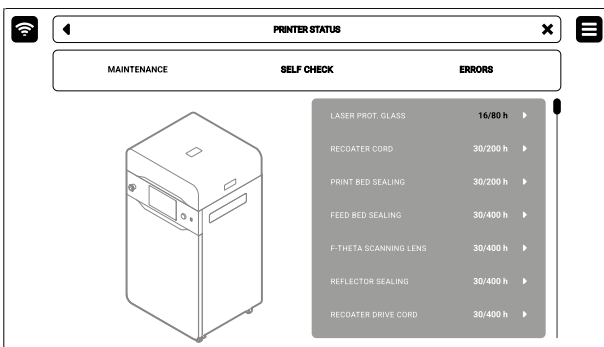

Fig. 13.9 Select the **RECOATER MAINTENANCE** position to start the maintenance
3. In this case, mark **MAINTENANCE DONE** once you have completed the procedure, and then the **DONE** button. The timer will reset to zero (fig. 13.9).